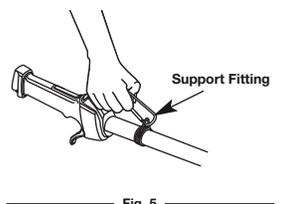

Fig. 5
3. Attach the shoulder clip to the unit. (Fig. 5)